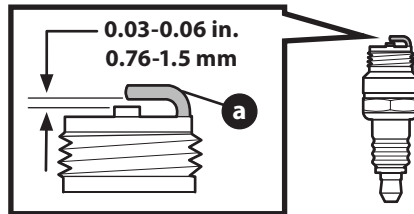

Figure 10
6. Measure the plug gap with a feeler gauge. Correct as necessary by bending side electrode (a) (Figure 10). The gap should be set to 0.030 - .06 in. (0.76 - 1.5 mm).